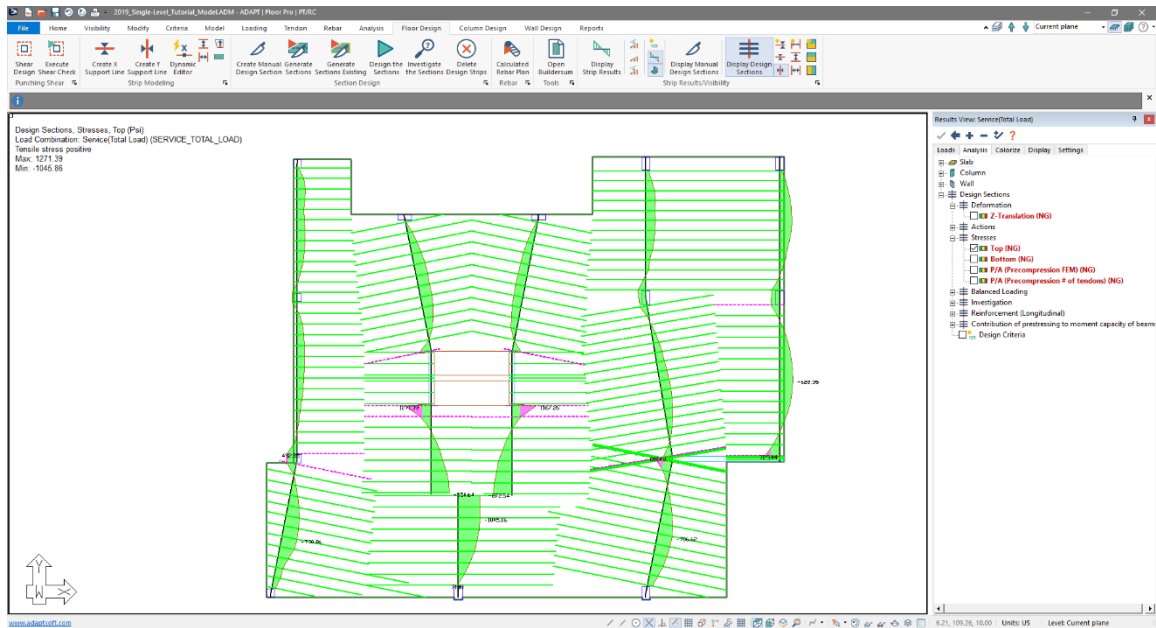

Figure 8-53
- The user should now see the top stress values along the Y-direction support lines as shown in **FIGURE 8-53**.